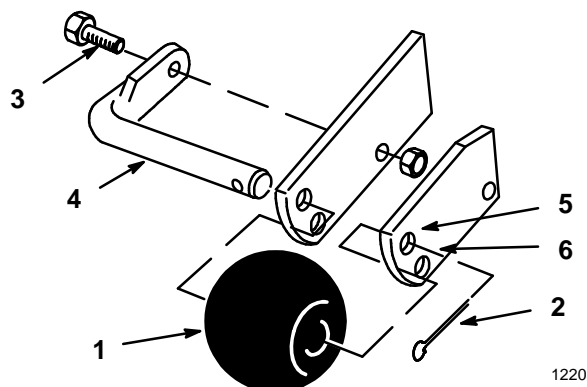

Figure 21
2. Remove cotter pin, bolt and shaft to change hole location (Fig. 21).
3. Select the hole position for the height-of-cut to be used and insert rod (Fig. 21).